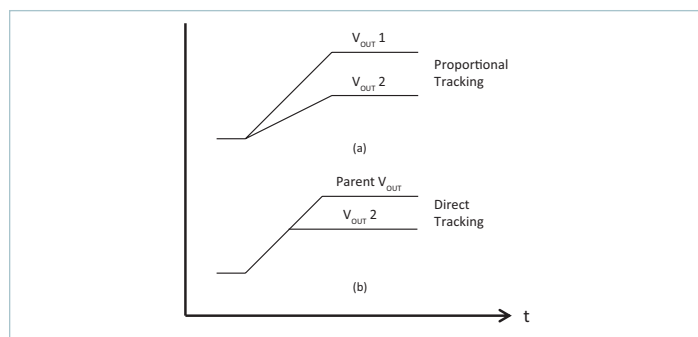

Figure 38 — PI3740-00 tracking methods
The PI3740-00 allows the tracking of multiple like regulators. Two methods of tracking can be chosen: proportional or direct tracking. Proportional tracking will force all connected regulators to startup and reach regulation at the same time (see Figure 38 (a)). To implement proportional tracking, simply connect all devices TRK pins together.
All connected regulators' soft-start slopes will track with this method. Direct tracking timing is demonstrated in Figure 38 (b). All tracking regulators should have their Enable (EN) pins connected together for proper operation.